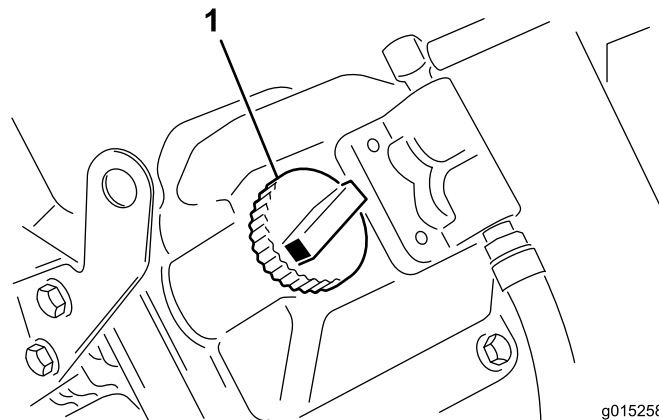

Figure 8
- If the oil level is below the Full mark, remove the filler tube cap and add oil until the level reaches the Full mark on the dipstick (Figure 8). **Do not** overfill.